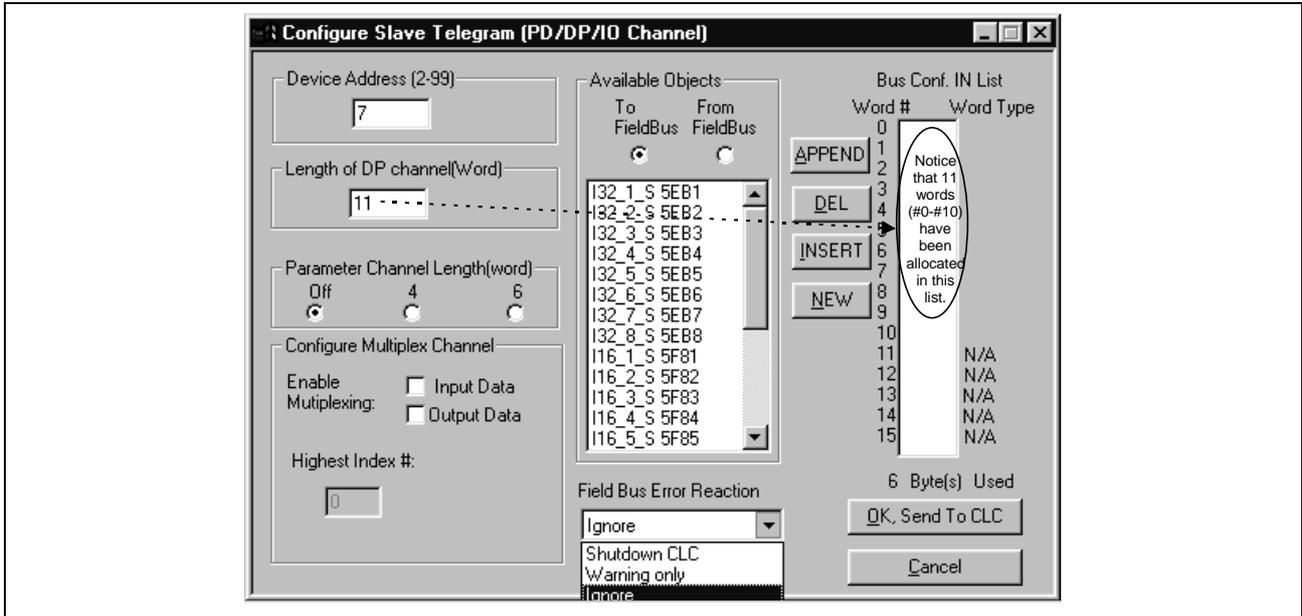

Figure 2-3: Profibus Configuration Screen
- Click the button labeled "Define/Config Slave Objects." The Fieldbus Mapper will try to detect any configuration data from the CLC-D. If you are configuring a new list, click on the "NEW" button to clear any current data in the selected list. The Profibus Configuration Screen is pictured in **Figure 2-3: Profibus Configuration Screen**.